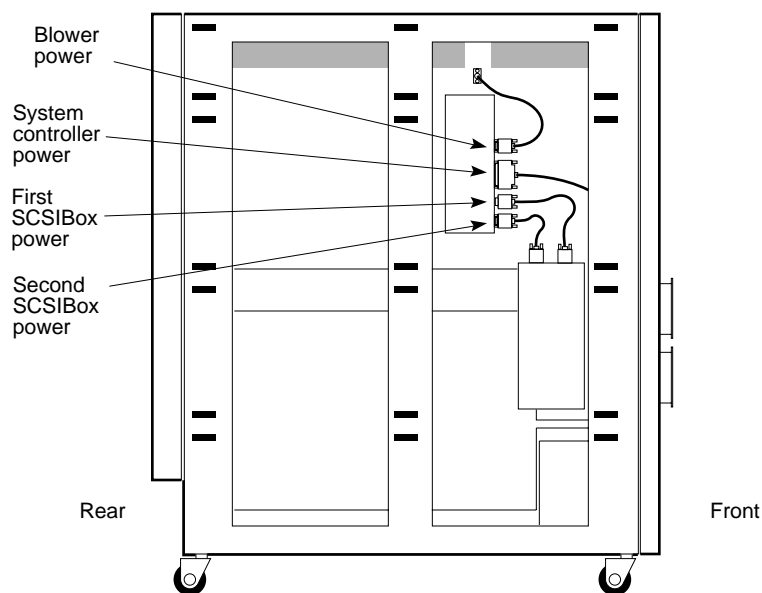

Figure 3-45 Removing Midplane Connectors
10. Unfasten the nine connectors from the midplane jumper board (see Figure 3-45). The five connectors at the top of the jumper board come from the midplane. The four lower connectors come from the power supply tray.